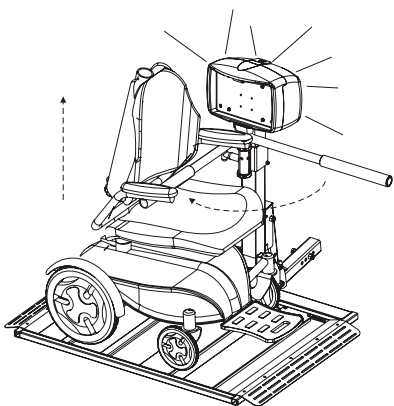

Figure 6-11
2. Raise the platform to top of travel until you hear the motor clutch. *See Figure 6-11.*